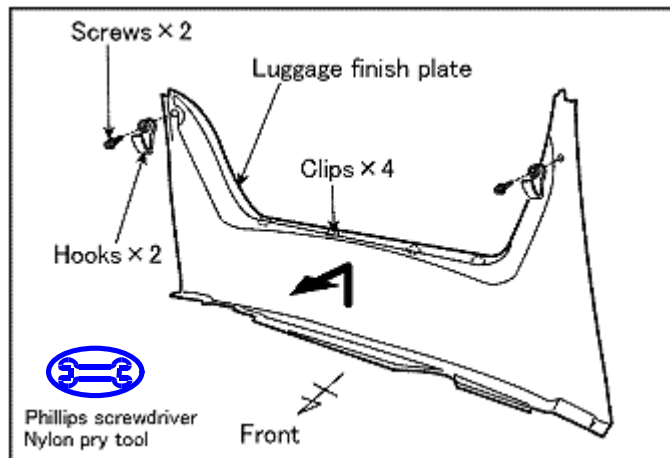

Figure I1
4. Remove the luggage finish plate. (Figure I1)